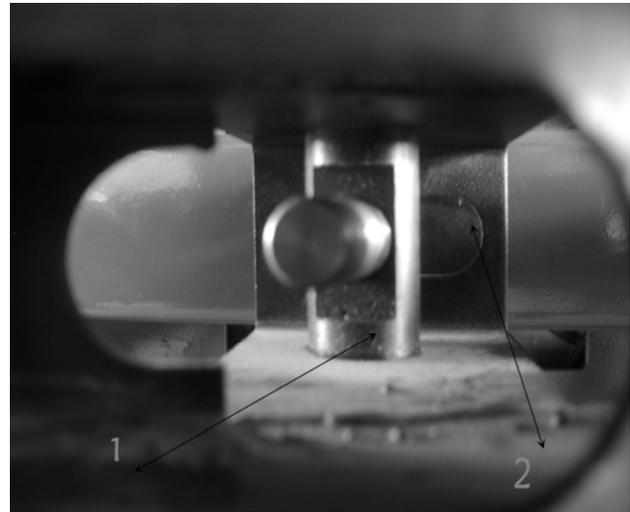

FIG 10
3.2.5 Position the bead breaking arm shaft bushing into the bead breaking support plate on the body (FIG 9-1) to align the hole and install the bead breaking bolt (FIG 9-2) and assemble the nut to lock (FIG 8-4). Insert the piston rod (FIG10-2) through the hole of the bead breaking slide bushing (FIG10-1). The surface of the slide bushing should be outwards (FIG 10). Assemble the removed nut (FIG 8-1) into the front end of the piston rod. The nut will be assembled. The distance from the edge of the bead breaking blade to the bead breaking rubber is 30~40mm (FIG11). Hang the spring. (FIG9-3).